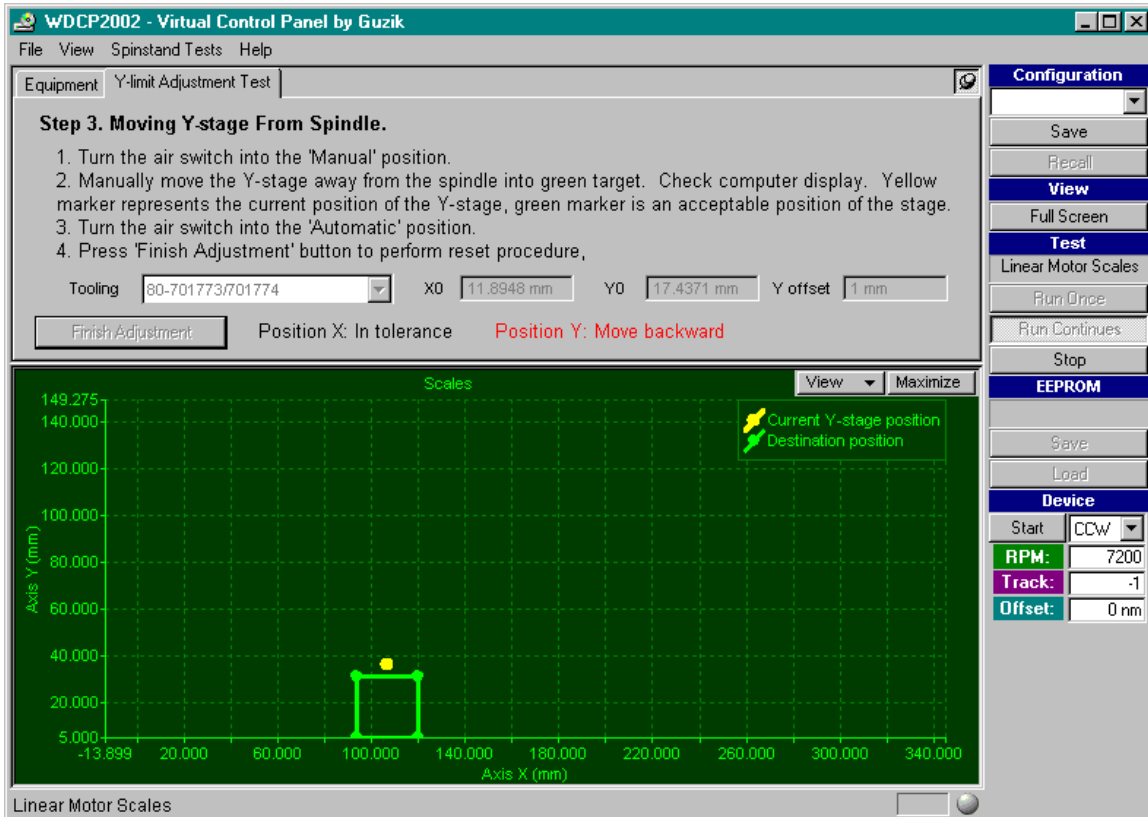

Figure 18: New Step of Y-Limit Adjustment Procedure (*Moving Y-Stage From Spindle*)
2. A new step is added to the *Y-Screw Limit Adjustment* procedure (see Figure 18). The new step *Moving Y-Stage From Spindle* helps you to move the Y-stage manually away from the spindle and do not hit the sensors limiting the stage movement. If the Y-stage touches any one of these sensors, the spinstand is not able to perform a reset. The step is the last one in the procedure. The *Y-Screw Limit Adjustment* test does not finish the alignment unless the Y-stage position allows the spinstand perform the reset.